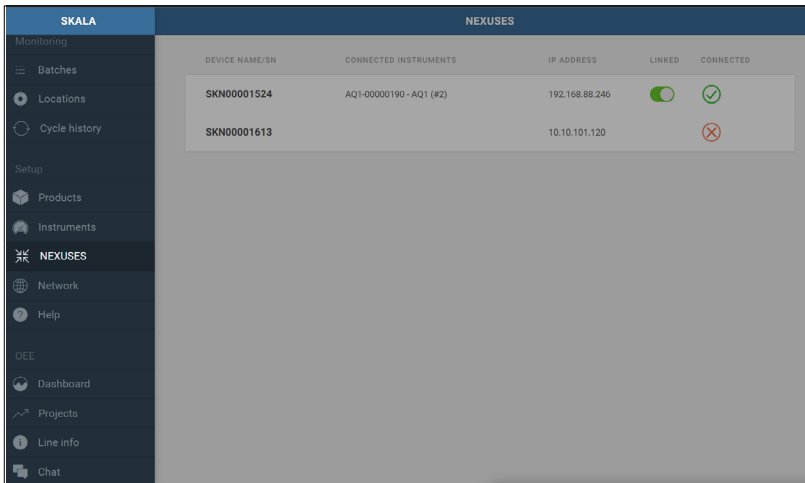

Figure 18 NEXUSES option on Main menu
8. Verify that the AQUALAB 3 system is able to locate registered NEXUSES by opening the NEXUS window from the SKALA Mobile app Main menu (Figure 18).